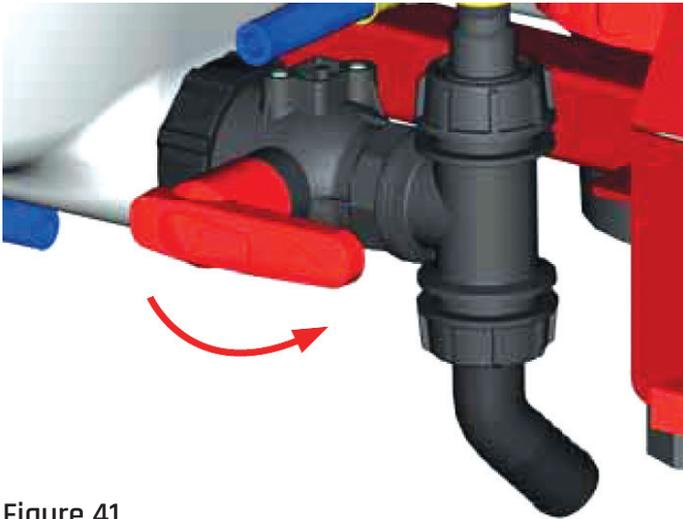

Figure 41
6. After the chemical-water is mixed, the suction valve under the mixer is opened to transfer it to the main tank and the mixture is transferred to the tank. **(Figure : 41)**